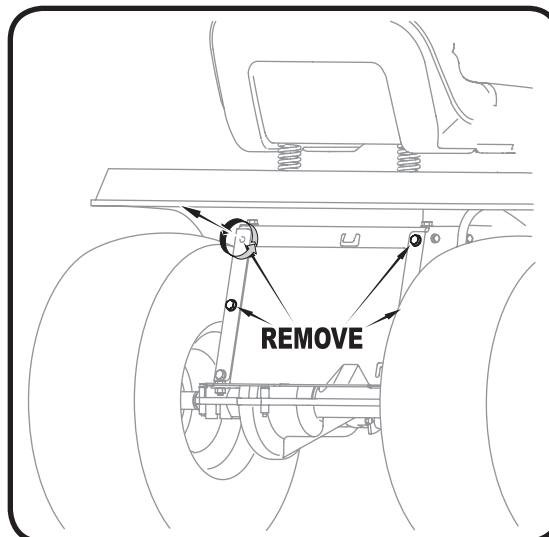

Figure 7
1. Remove the top four self-tapping screws from the rear of the lawn tractor. See Figure 7 on the previous page.